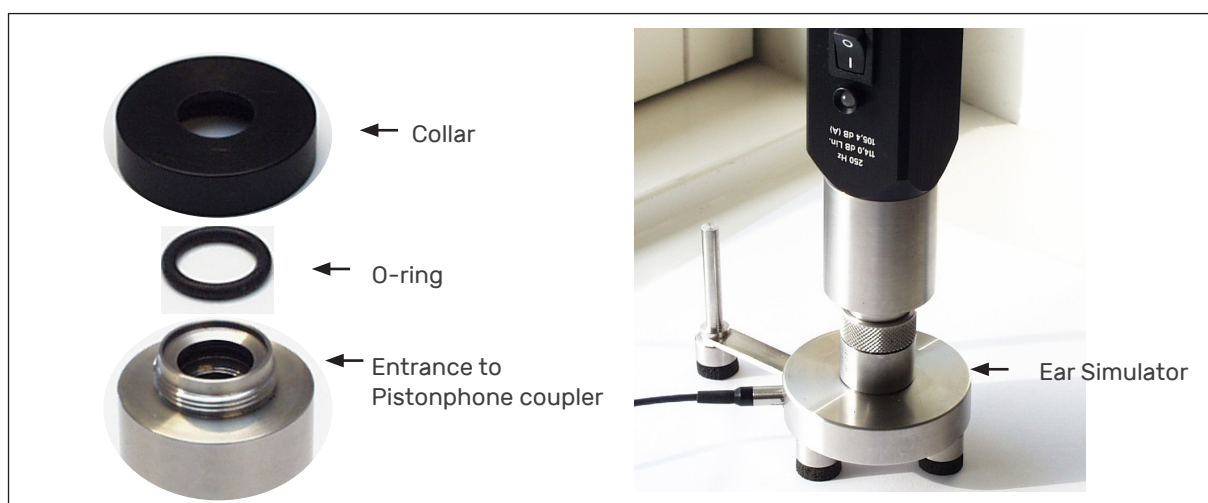

Fig. 6. Level calibration using a pistonphone
- 2) Unscrew the collar of the pistonphone and remove the O-ring (see Fig. 6).